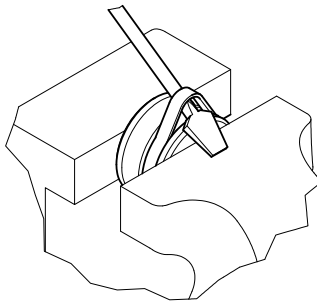

Figure 5-41, Seal Removal
6. Carefully pry up on the piston seals using a blunt tip screwdriver being careful not to scratch the seal grooves. Cut the seals to remove them from the piston. (Figure 5-41)